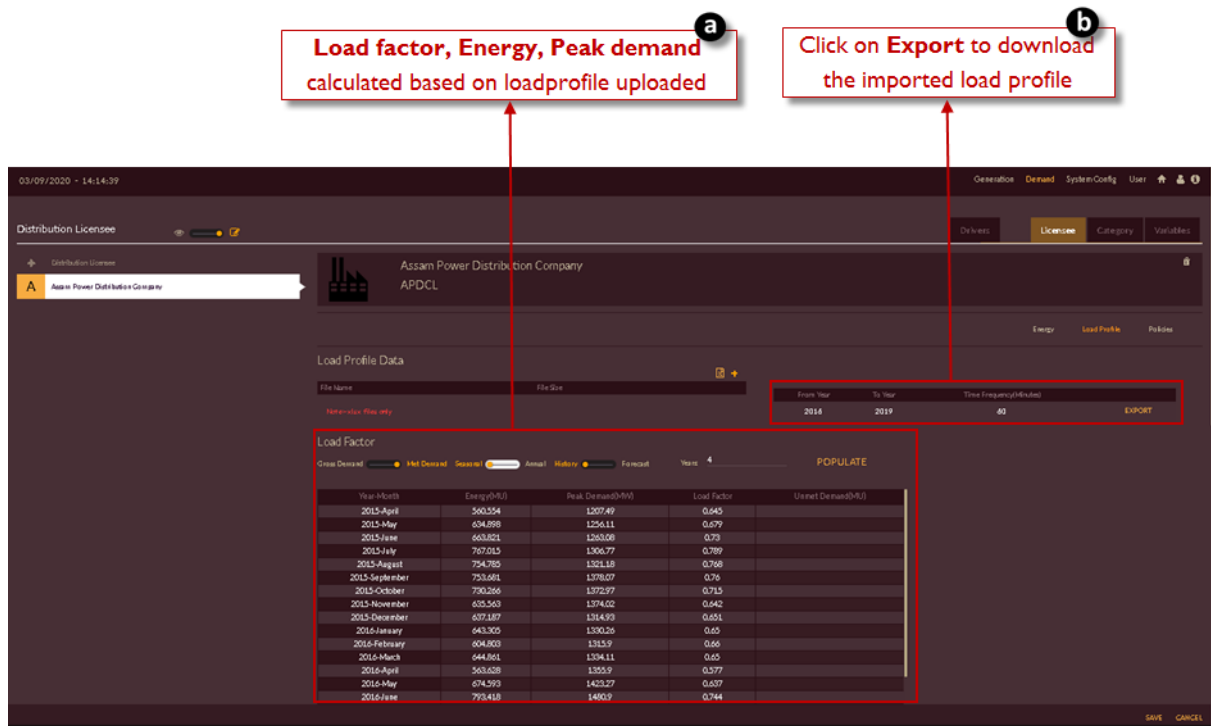

Figure 32. Load Factor Calculation after Uploading Load Profile
5. Once you upload Load profile, the other parameters like Load factor, Energy, Peak Demand & Unmet Demand is calculated automatically and the page appears as shown in Figure 32.